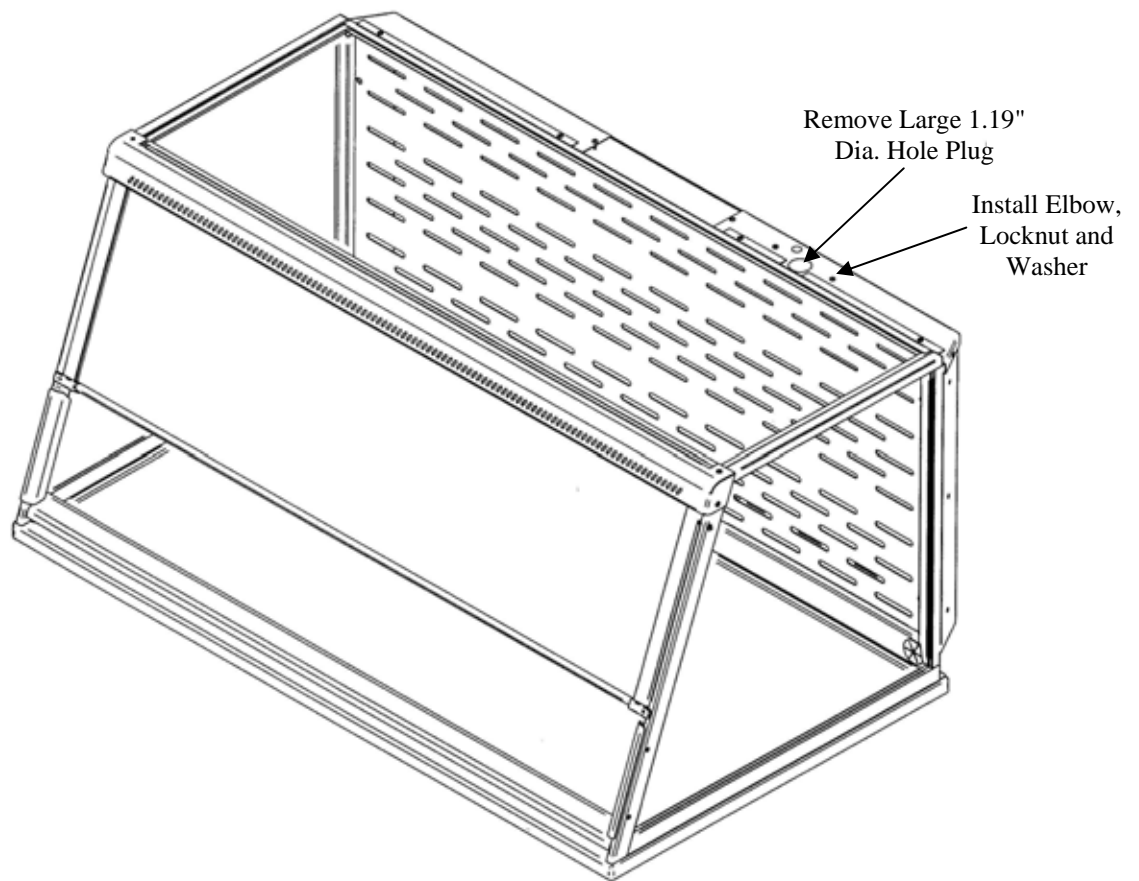
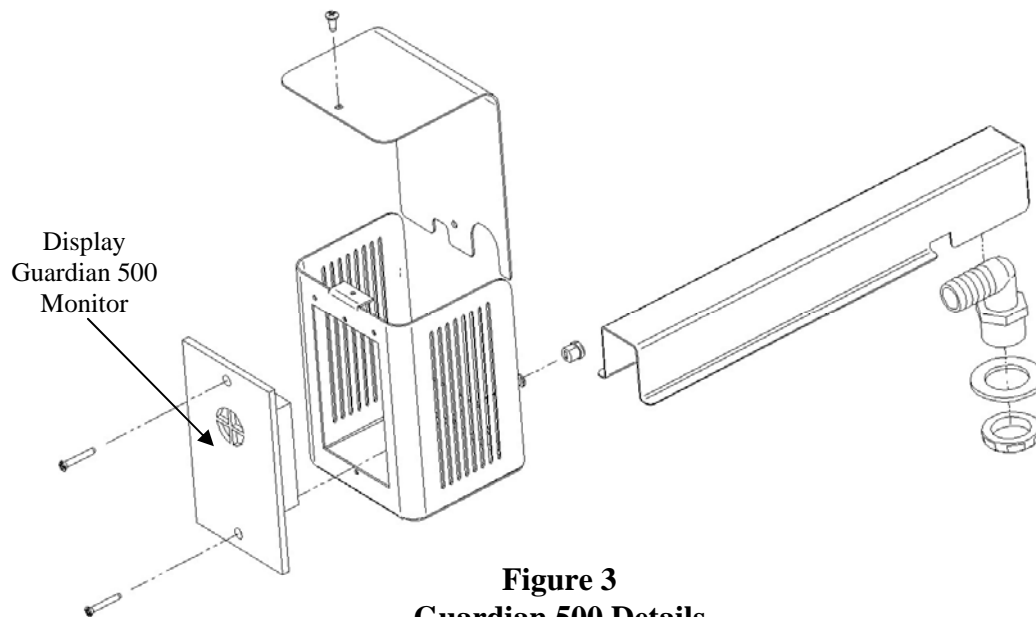

Figure 2
Figure 3
2. First remove the large 1.19" dia. gray hole plug. See Figure 2. See Figure 3 only to reference internal assembly of the airflow monitor. Locate the elbow, locknut, and washer and install it in the 1.19" dia. hole per Figure 2 and Figure 3. The enclosure baffle pivots down to install the elbow, washer and locknut.